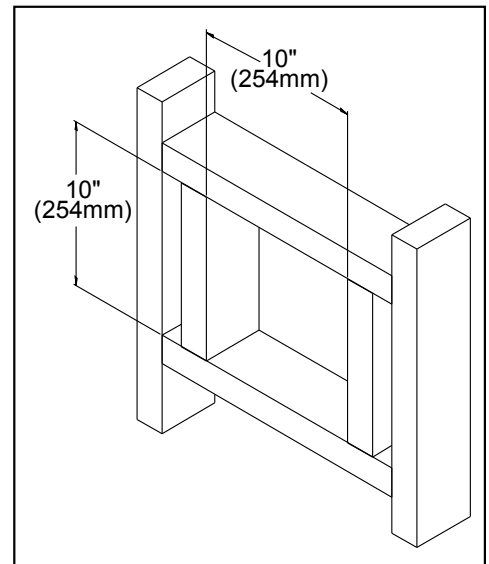

Figure 32: Wall Framing Hole for Horizontal Installation.
3. With the pipe attached to the stove in the correct location, mark the wall for a 10" (25.4cm) x 10" (25.4 cm) square hole (refer to Figure 32). The center of the square hole should match the center line of the horizontal pipe. Cut and frame the 10" (25.4cm) x 10" (25.4cm) hole in the exterior wall where the vent will be terminated. Refer to Figure 23 and Table 7. If the wall being penetrated is constructed of non-combustible material i.e. masonry or concrete, a 7" (17.8cm) hole is acceptable.